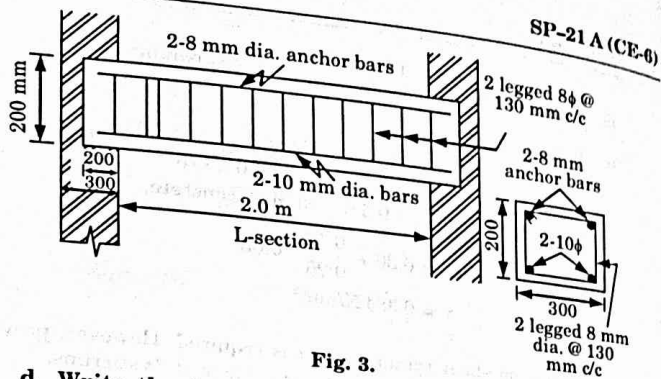

Fig. 3.
9. The reinforcement details of lintel are shown in Fig. 3.